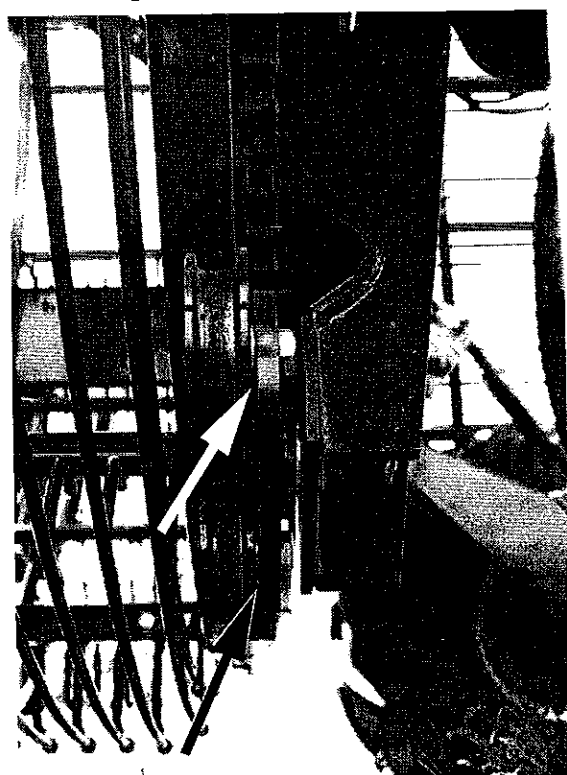
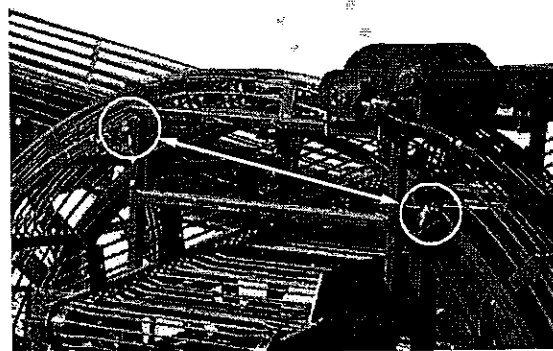

Figure 45. Wheel Elevator Roller Shim Locations
Figure 46. Top Front Wheel Elevator Rollers
1. Four large flanged rollers (two on the left side and two on the right - See Figure 45) must be in alignment and the wheel elevator must be parallel to the frame (within 1/4"). The wheel elevator should just contact the upper front rollers (see Figure 46). Remove or add shims (washers) to the lower rollers if required.
2. Two small solid rollers with bearings (Figure 46) guide the top of the elevator wheel on the front side of the harvester. The elevator wheel should just make contact with these rollers. Note that the roller on the right-hand side of the machine is adjustable.